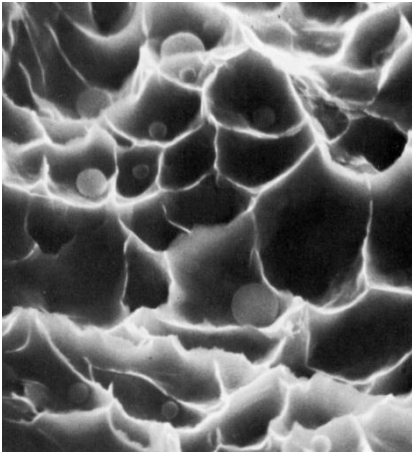

Figure Q3.1
- a) Figures Q3.1, Q3.2, Q3.3 below each show a different mode of failure. Identify each failure mode and briefly explain the mechanism of failure.